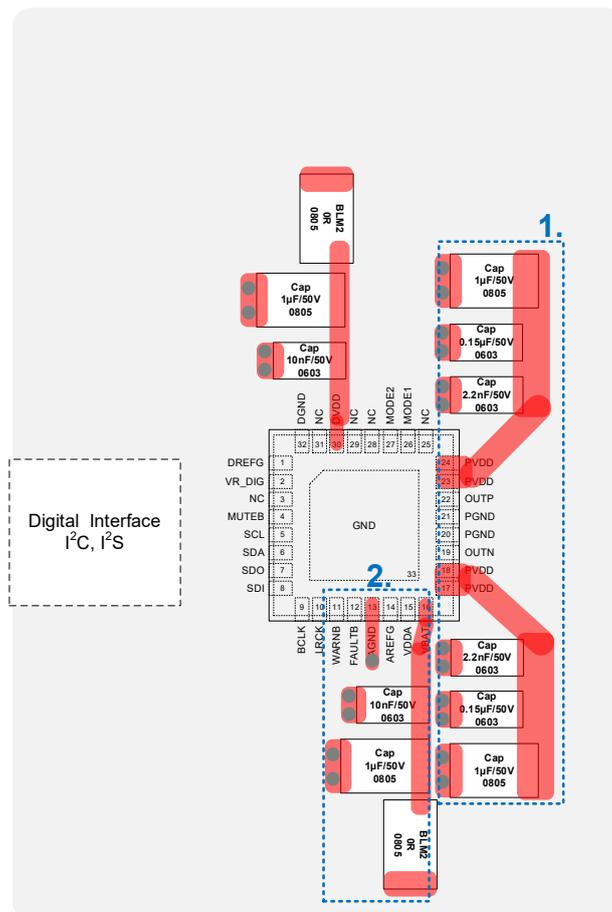

Figure 16. Layout Guide (Top Layer)
- Pins 17, 18, 23, and 24 are PVDD power pins for the Class-D amplifier. Place the filter capacitors as close as possible to the PVDD pins and use the shortest possible traces for connection. Capacitors with smaller capacitance values should be placed near the PVDD pins. To minimize parasitic inductance and resistance, use multiple vias to connect these capacitors directly to the main ground. The optimal approach is to use vias that are directly connected to the Main GND. Ensure that these vias are isolated to prevent unintended connections with other ground planes, as illustrated at position 1 in Figure 16.
- The ground associated with the VBAT pin is defined as AGND. The AGND pin trace should first connect to the ground terminal of the capacitor, then use a via to connect to the Main GND. The VBAT pin must use a star connection to reduce power noise, as indicated at position 2 in Figure 16.